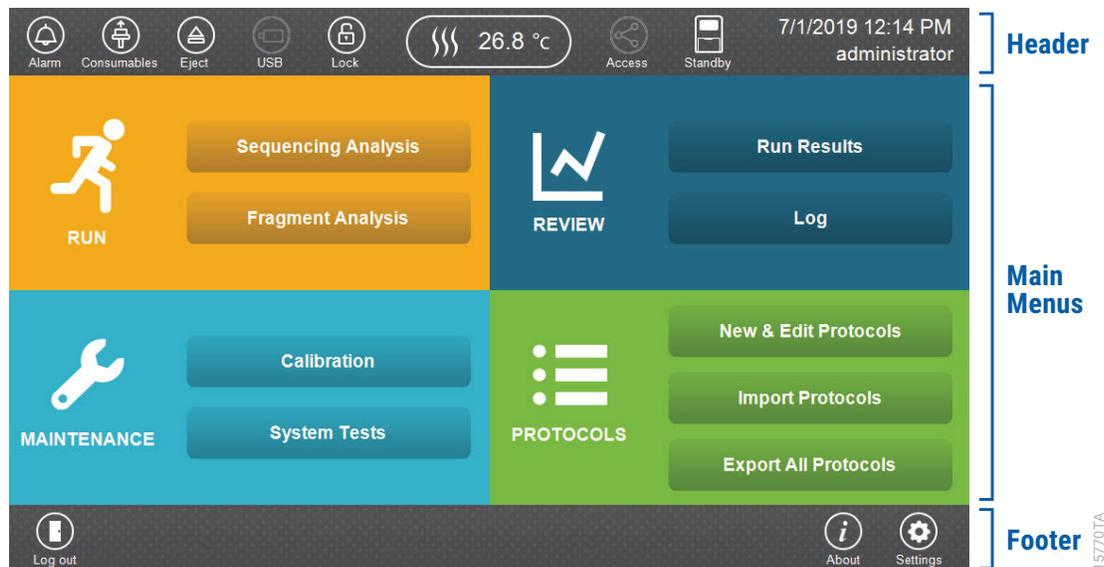

Figure 3. Spectrum Compact CE System Software 'Main Menu' screen.
1. Before starting a run, ensure all consumables are installed and in sufficient supply. For best quality results, use unexpired reagents that are within the recommended use range (Figure 4 and Table 4). Refer to the 'Consumables' screen to determine if any consumables need to be replaced. To access the 'Consumables' screen, select the **Consumables** icon in the Header on the 'Main Menu' screen (Figure 3). The 'Consumables' screen displays information for the four consumables on the instrument: Polymer, Capillary Cartridge and Anode and Cathode buffers.